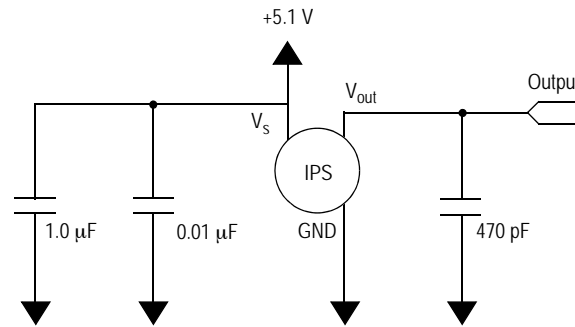

Figure 3. Recommended Power Supply Decoupling and Output Filtering
**Table 1. Operating Characteristics** ( $V_S = 5.1$  Vdc,  $T_A = 25^\circ\text{C}$  unless otherwise noted,  $P1 > P2$ . Decoupling circuit shown in Figure 3 required to meet electrical specifications.)
Figure 3 shows the recommended decoupling circuit for interfacing the output of the integrated sensor to the A/D input of a microprocessor or microcontroller.
Figure 4 shows the sensor output signal relative to pressure input. Typical, minimum, and maximum output curves are shown for operation over a temperature range of 0° to 85°C using the decoupling circuit shown in Figure 3. The output will saturate outside of the specified pressure range